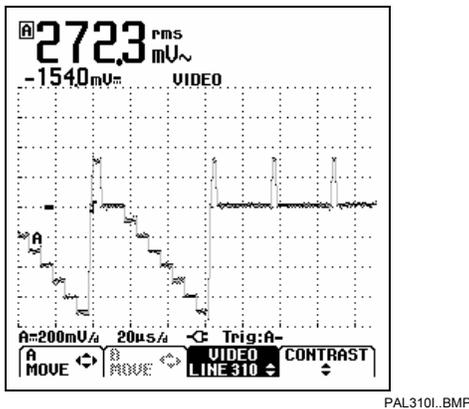

Figure 3-16. Test Tool Screen for PAL/SECAM line 310 Negative Video
- ⇒ line number 311 for PAL or SECAM, see Figure 3-16